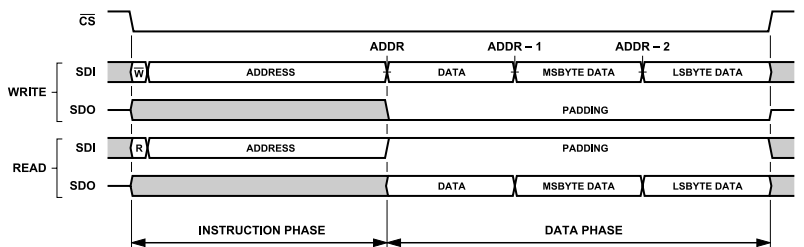
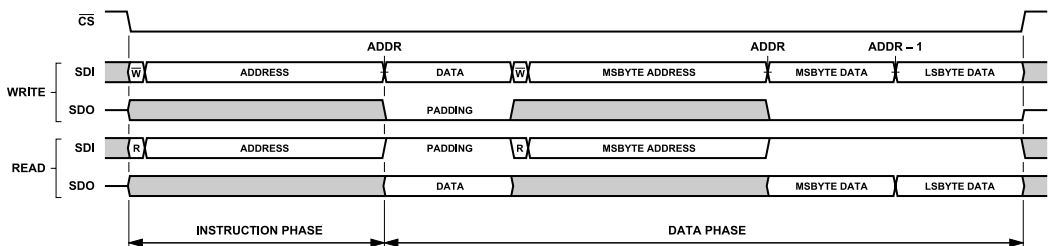
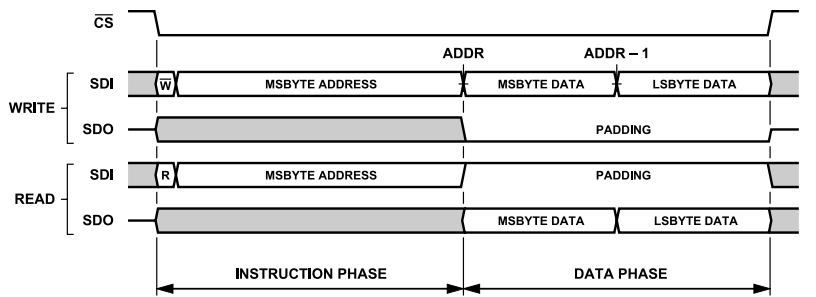
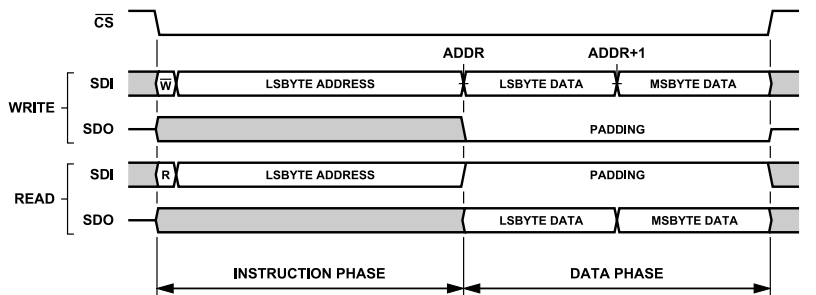

Figure 54. Interface Access Example, Default Interface Configuration, Streaming Mode (ADDR_ASCENSION = 0)
Figure 55. Interface Access Example, Single Instruction Mode (SINGLE_INST = 1), All Other Interface Options Default
Figure 57. Single Instruction Format, $ADDR_ASCENSION = 0$ (Descend), $STRICT_REGISTER_ACCESS = 1$ (Enabled)
Figure 58. Single Instruction Format, $ADDR_ASCENSION = 1$ (Increment), $STRICT_REGISTER_ACCESS = 1$ (Enabled)
Figure 54 illustrates the generic SPI frame formatting for a serial transaction using the default interface configuration. In this example, a portion of the configuration register space consisting of a byte-wide register and a multibyte register is accessed. The address for the byte-wide register resides in the most significant address (ADDRESS) and the most significant byte of the multibyte register resides in the least significant address of the register segment. By default, the ADDR_ASCENSION property is set to descending, indicating that the address for the most significant register is passed to the host controller during the instruction phase. Depending on the selected operation, the instruction word
In single instruction mode (SINGLE_INST = 1), the memory access controller requires an instruction phase to transmit for each register accessed in a given SPI frame as illustrated in Figure 55. This mode is useful when access to nonadjacent sections of the register space is required in a given SPI frame. Note that, the same access flexibility can be achieved in stream mode by initiating a new SPI frame for each unique register access.
The address ascension selection (ADDR_ASCENSION) bit, as described in previous sections, determines how the internal interface address pointer is updated for each byte of data transmitted to the AD4082 in streaming mode (SINGLE_INST = 0). If using single instruction mode (SINGLE_INST = 1), each register is directly addressed through its own instruction phase as illustrated in Figure 55, and thus, the address pointer is not updated. Regardless of the setting for SINGLE_INST, the ADDR_ASCENSION bit directly impacts the formatting of the SPI frame in terms of selection of the instruction phase starting address and byte order of the data phase payload. This impact is described in greater detail in the Strict Access Selection and Multibyte Registers section as much of the data formatting is dependent on this interface configuration selection. The ADDR_ASCENSION selection bit is located in the Interface Configuration A register (see the Interface Configuration A Register section, Address 0x00).
As indicated in Figure 57, the address counter, by default, automatically decrements ($ADDR_ASCENSION = 0$) such that the most significant byte of the multibyte register is accessed first, followed
As an extension of this concept, when $STRICT_REGISTER_ACCESS = 1$, any SPI frame that accesses a multibyte register as the first entity in the data transfer must correctly set the starting address in the instruction word to correspond to the $ADDR_ASCENSION$ selection. In the case that the address counter automatically decrements ($ADDR_ASCENSION = 0$), the starting address is assigned to the register address for the least significant byte of that multibyte register, and conversely, if configured to increment automatically, the starting address must be set to the register address for the most significant byte. As a result of the change to $ADDR_ASCENSION$ from automatic address decrement (0) to automatic increment (1), Figure 54 and Figure 55 will change as illustrated in Figure 57 and Figure 58 to accommodate the changes in data phase byte order and instruction phase multibyte register start address.